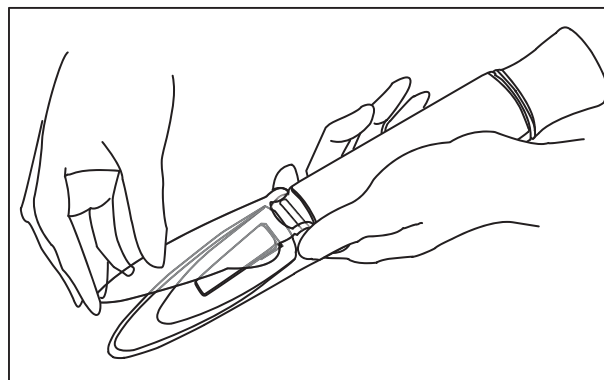

Fig. 6-5 Measuring Procedure 2
2. Close the daylight plate gently. (Figure 6-5)